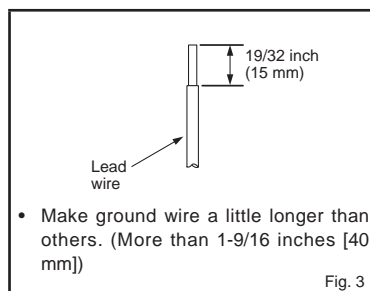

Fig. 3
- Process the end of ground wire (Fig. 3). Connect it to the ground terminal of electrical parts box.
- Process the end of indoor/outdoor unit connecting wire (A) (Fig. 3). Attach it to the terminal block. Be careful not to make mis-wiring. Attach the wire to the terminal block securely so that its core cannot be seen, and no external force affects the connecting section of the terminal block.
- Put the drain cap into the section to which the drain hose is to be attached at the rear of the indoor unit. (Fig. 3)
- If the drain hose provided with the indoor unit is too short, connect it with a field-supplied drain hose (I). (Fig. 3)
- 2) Remove all burrs from the cut section of the pipe, ensuring that precautions are taken to avoid getting metal shavings into the piping. (Fig. 3)